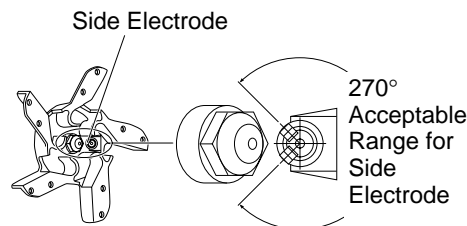

Figure 13 - Acceptable Range For Side Electrode
6. Install spark plug and wave spring washer in burner head. Torque 40 to 60 inch-pounds. Adjust (if necessary) to bring side electrode into the acceptable range (see figure 13).